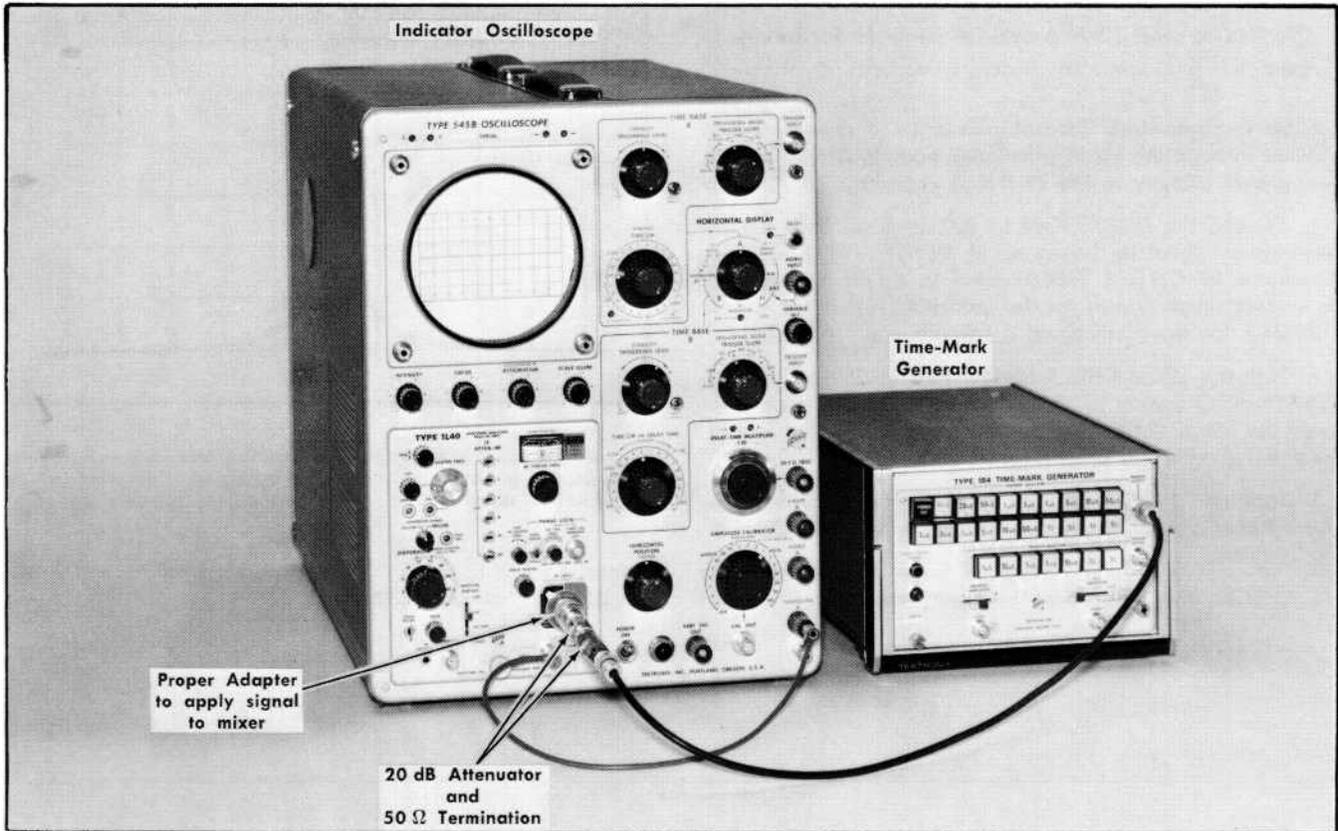

Fig. 5-20. Equipment setup for checking incidental FM.
- a. Equipment setup is shown in Fig. 5-20.